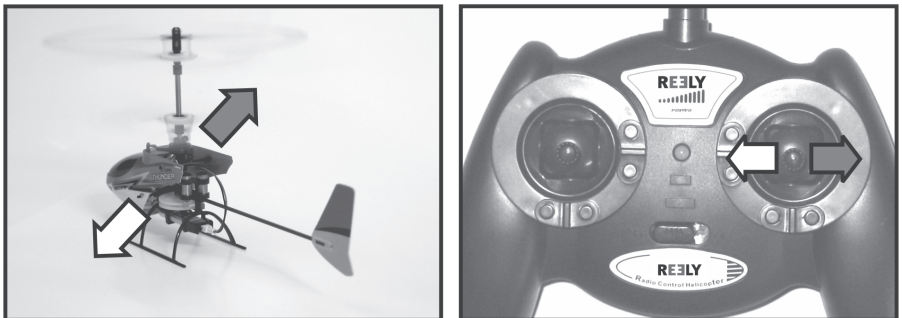

Figure 13
The roll function allows you to move your model helicopter sideways to the right and to the left (see figure 13). For control, use the right control lever (also see figure 1, item 3).